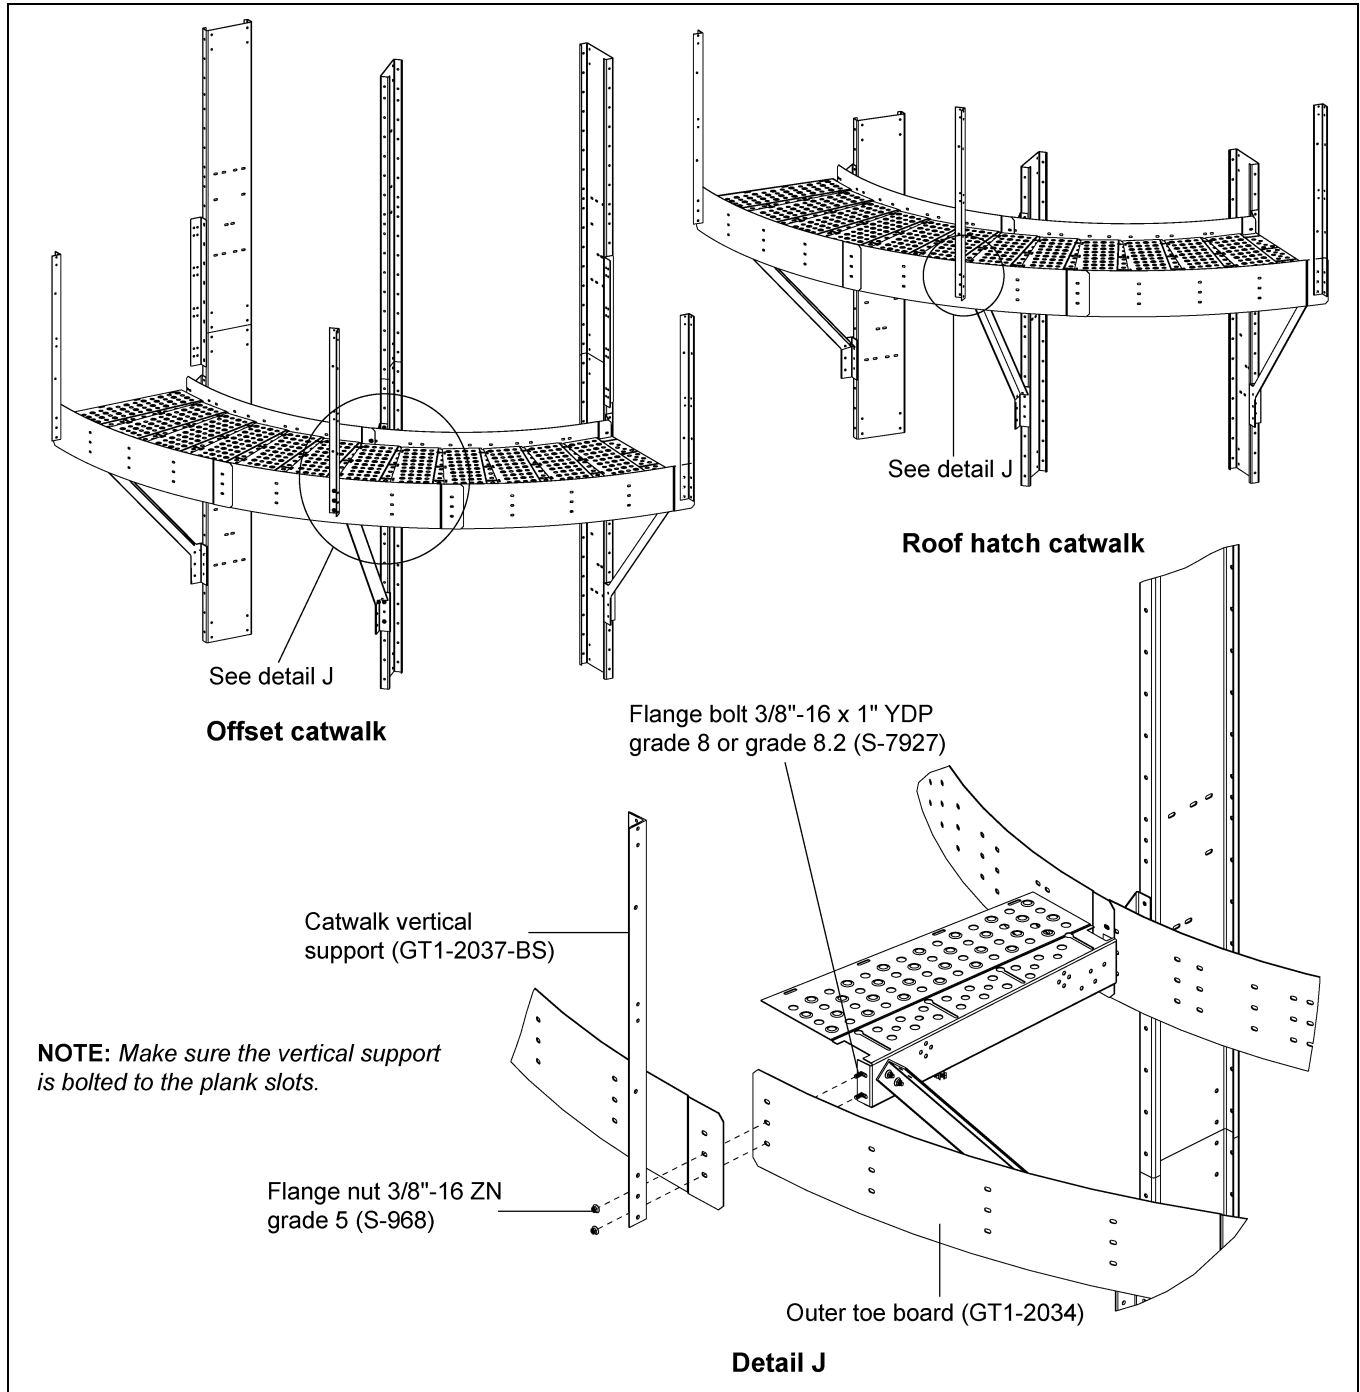

Figure 6T Outer Toe Board (GT1-2034) and Vertical Support (GT1-2037-BS)
1. Install all the outer toe boards (GT1-2034) to the planks (GT1-2033). (See Figure 6T.)
2. When installing the outer toe board with planks, install the catwalk vertical support (GT1-2037-BS) simultaneously at proper locations using 3/8"-16 x 1" YDP grade 8 or grade 8.2 bolts (S-7927) and 3/8"-16 ZN grade 5 nuts (S-968). (See Figure 6T.)